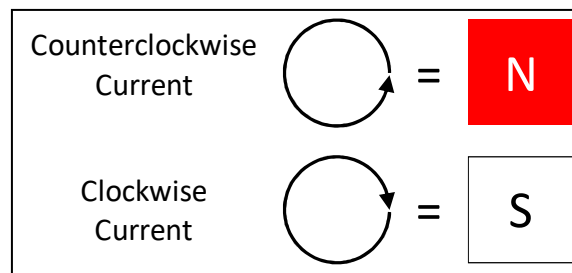

Figure 7 An electromagnet with the relationship between the direction of its current and its magnetic poles
- We are now ready to build our electromagnet. Connect a single AA battery to the wire spool. The resistance of our wire spool will allow us to drive a controlled amount of current from the AA battery through the wire. Controlling the current is important because it prevents the wire and battery from heating up too much and burning our hands and draining the battery too quickly. **Warning: without the resistance of the long wire spool, the battery can become very hot and will be drained very quickly.** Bring the spool close to the compass and observe the change in the needle position. Does the needle move in a direction that agrees with Figure 7? Look closely at the direction that the spool is wound up.